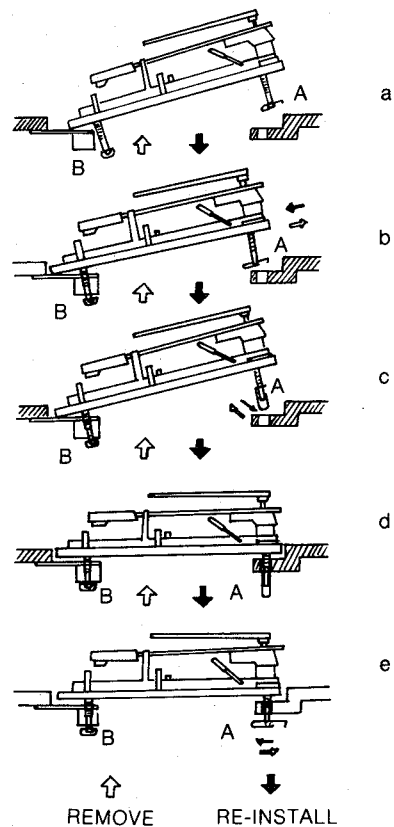

FIG. 2-a ~ e
4. Lift record changer slightly in back, unplug two pin plugs from changer socket and molex plug from molex connector. And remove changer by lifting it slightly back and sliding it toward rear of cabinet. (Refer to Fig. 2)